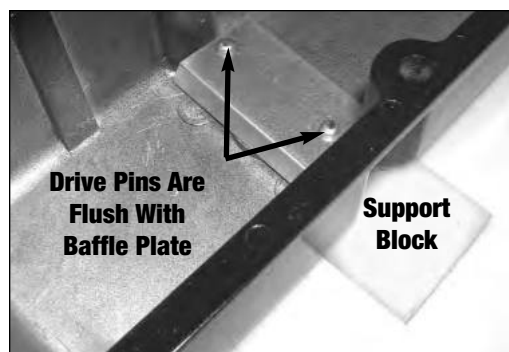

Fig 1. - Baffle Plate Installation
- For applications using breathers/PCV, attach the breather baffles using the supplied drive pins. Using a punch and hammer, tap pins in until fully seated (**See Fig. 1**). On valve covers without breather holes, the breather holes must be drilled/machined before attaching the baffles.
CAUTION!: WHEN DRIVING THE PINS INTO THE VALVE COVER, YOU MUST SUPPORT THE BACK SIDE OF THE VALVE COVER WITH A BLOCK OF WOOD, OR OTHER NON-MARRING SURFACE. FAILURE TO DO SO COULD RESULT IN DAMAGE TO THE COVER, SUCH AS CRACKS, DENTS, ETC. (**See Fig. 1**).